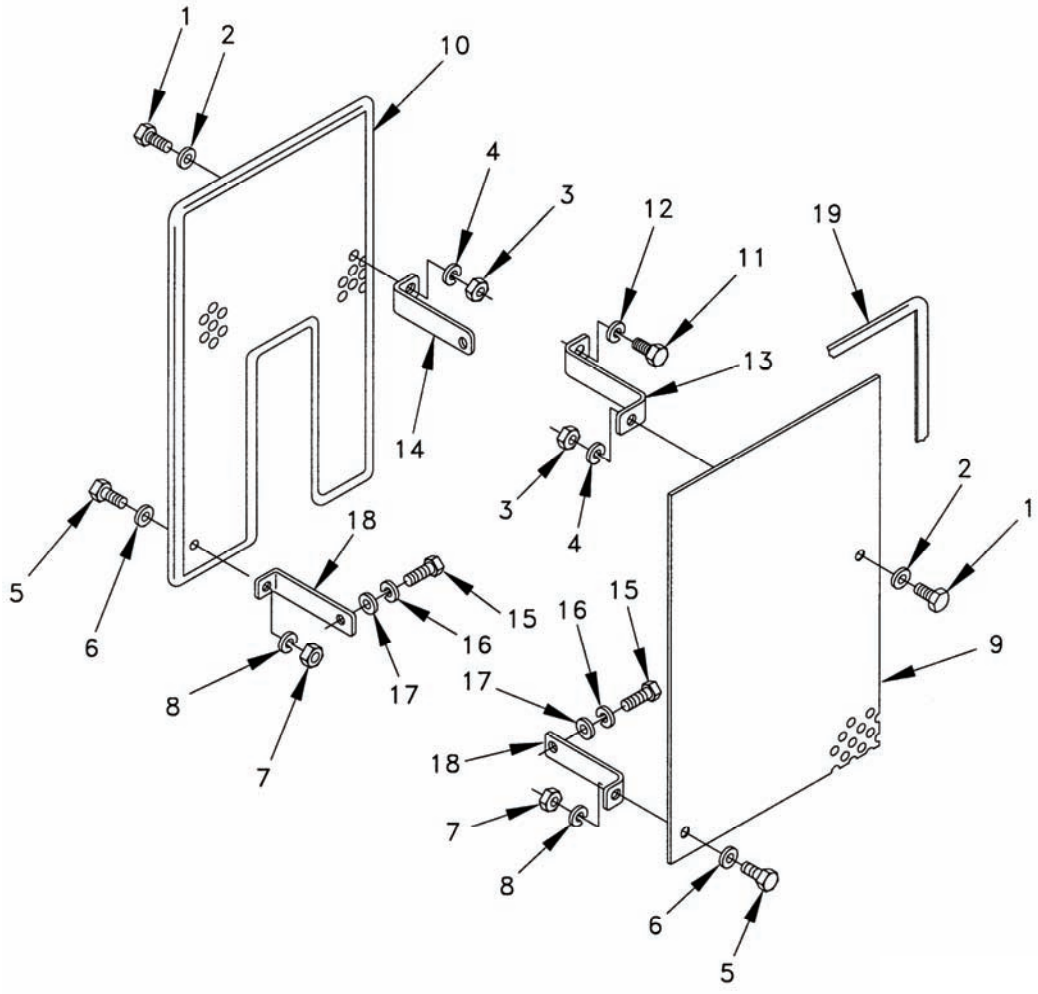

Figure 5-14. Fan Guards and Mounting Brackets.
- a. Remove bolts (1 and 5, Figure 5-14), washers (2 and 6), nuts (3 and 7), and lock washers (4 and 8) securing fans guards (9 and 10). Discard lock washers (4 and 8).
- b. Remove bolts (11 and 15), lock washers (12 and 16), and washers (17) securing brackets (13, 14, and 18). Discard lock washers (12 and 16).